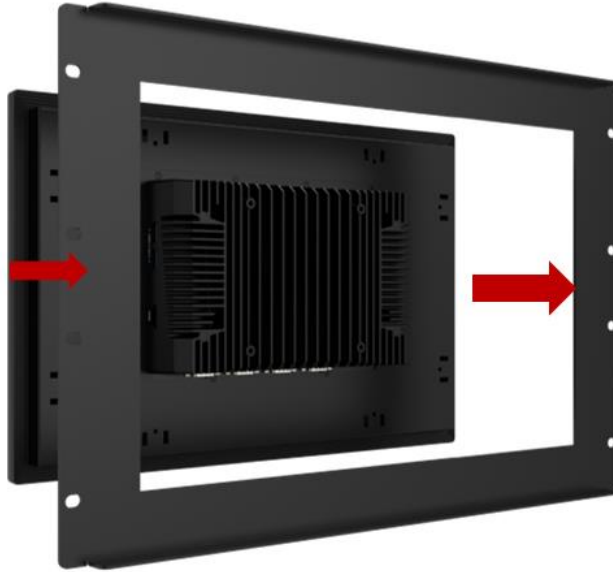

Figure 3-26: Machine mounted to panel
Step 7: Slide the PPC2-xxx-ADLP through the hole until the aluminum frame is flush against the panel (**Figure 3-26**).